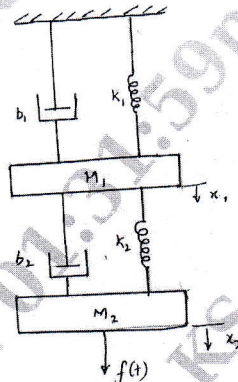

Fig. Q3 (a)
- 3 a. For the physical system shown in Fig. Q3 (a), draw the Free Body diagram and write the system equations in time domain and S domain. (10 Marks)